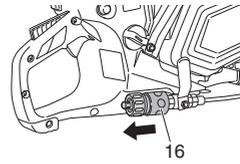

Fig. 16
- Remove coupler (16) by pulling the coupler from the machine. (Fig. 16)